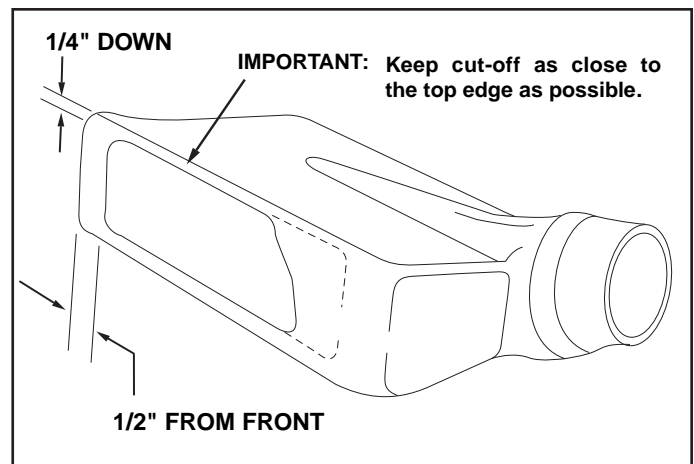

FIGURE 23
3. Tape the template to the face of the adapter, about 1/2" from front and 1/4" down from top for deeper decks. For shallow decks, position template low enough that adapter will not extend below bottom of deck. Mark outline of template on face of adapter using white crayon, nail or scribe. Drill a starting hole inside the outline, then use a saber saw or key hole saw to cut out the opening. See figure 23.